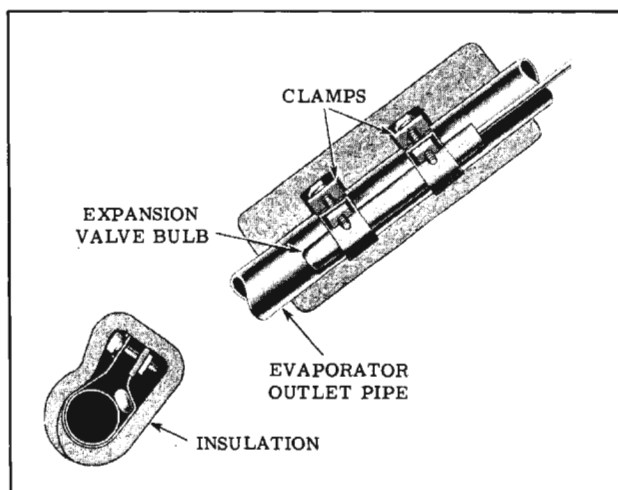

Fig. 15-130 Expansion Valve Bulb
6. If necessary to service expansion valve, remove expansion valve from evaporator by loosening the line fitting and removing the capillary bulb clamp. (Fig. 15-130)